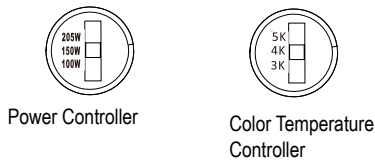
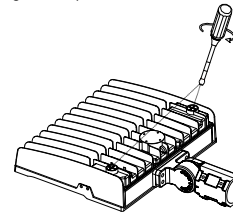

Figure 5.3
Figure 5.4
Step 2: After adjusting the required control function (Figure 5.3), tighten the metal plug and the plastic plug clockwise (Figure 5.4).